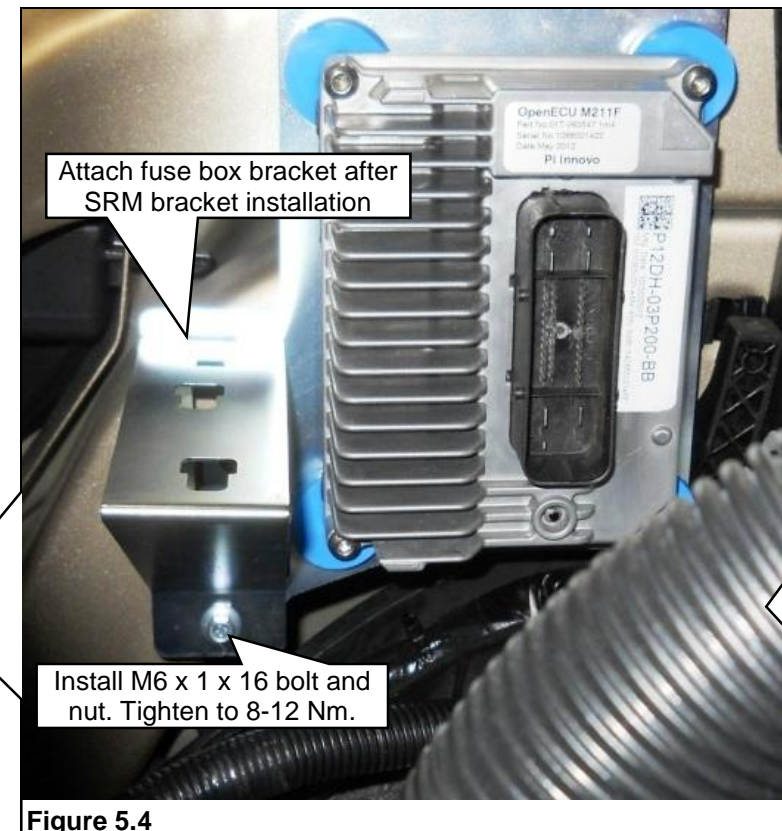

Figure 5.4
5. Attach the fuse box bracket to the SRM bracket and secure with one M6 bolt and one M6 nut. Place the bolt behind the SRM bracket and with the nut visible on the inside. **Figure 5.4.**